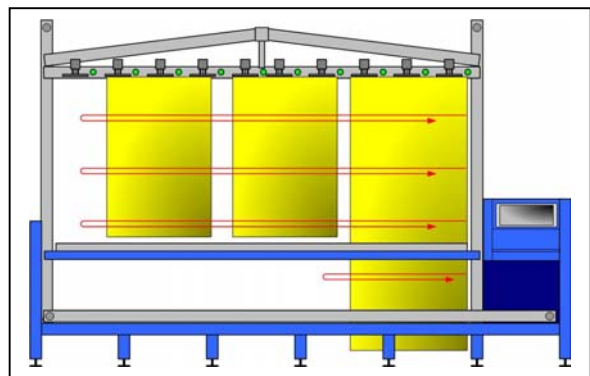

Figure 31 Inserting curtains with unequal lengths
- ▶ Insert all subsequent curtain lengths in descending order. Due to the automatic end-of-fabric detection the machine will automatically return to its starting position if no curtain is detected over a distance of approx. 150 mm. Figure 31 shows a simplified representation, with the insertion beam in the highest position. The red lines show the sewing machine's cross movement for each pocket.
Figure 31 shows that the sewing machine no longer considers the shorter curtains while stitching the bottom pocket in the right-hand curtain.